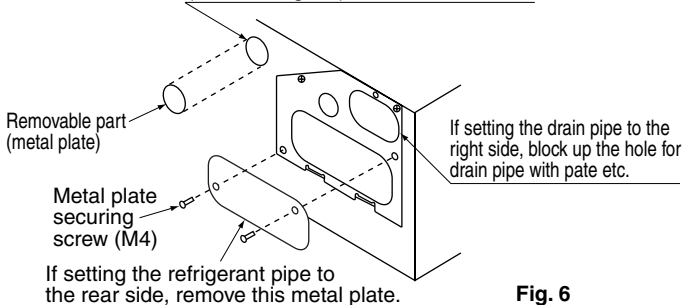

Fig. 6
- When setting the refrigerant pipe to the rear side, remove the securing screws and the metal plate. (Refer to Fig. 6)